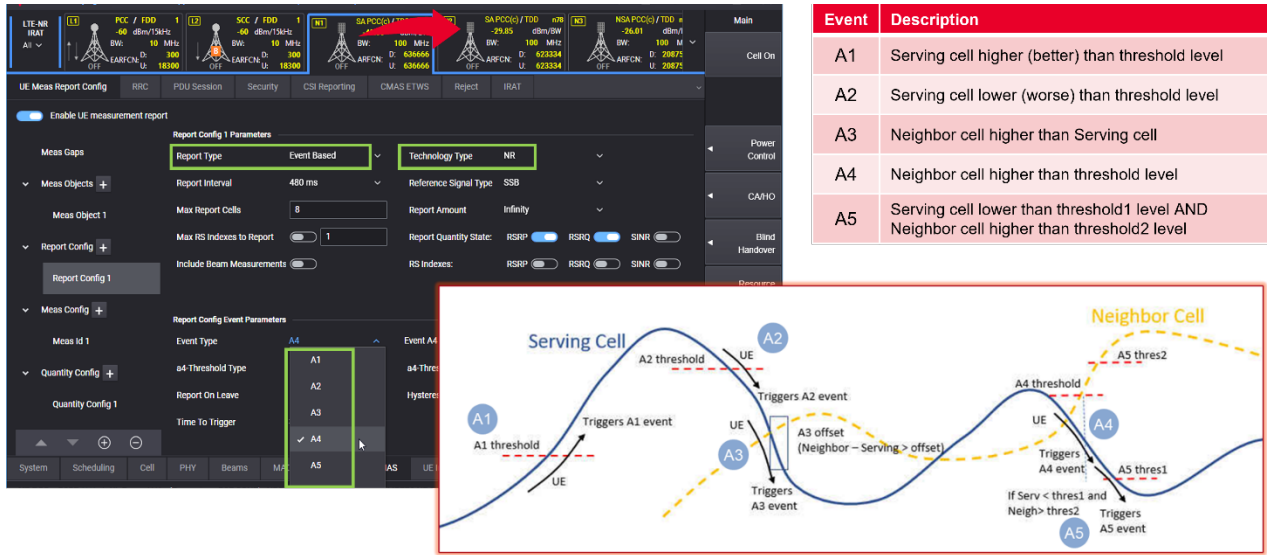

Figure 13. 5G NR SA-to-SA mobility scenario based on RRC events
- Perform SA-to-SA mobility scenarios based on Radio Resource Control (RRC) events (Figure 13)